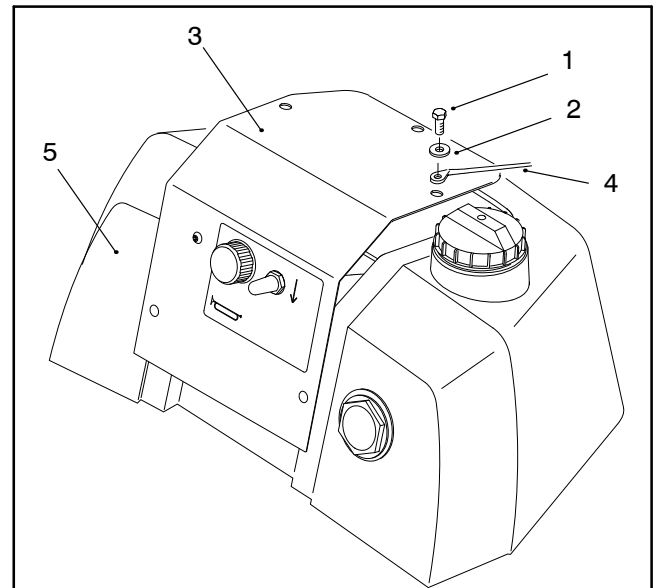

Figure 75
4. Remove five (5) cap screws and flat washers securing the cover plate and cap tether to the leak detection tank. Remove cover plate from tank (Fig. 75).
3. Make sure five (5) cap screws and washers securing the cover plate to auxiliary hydraulic tank are removed with the cover plate (Fig. 75).